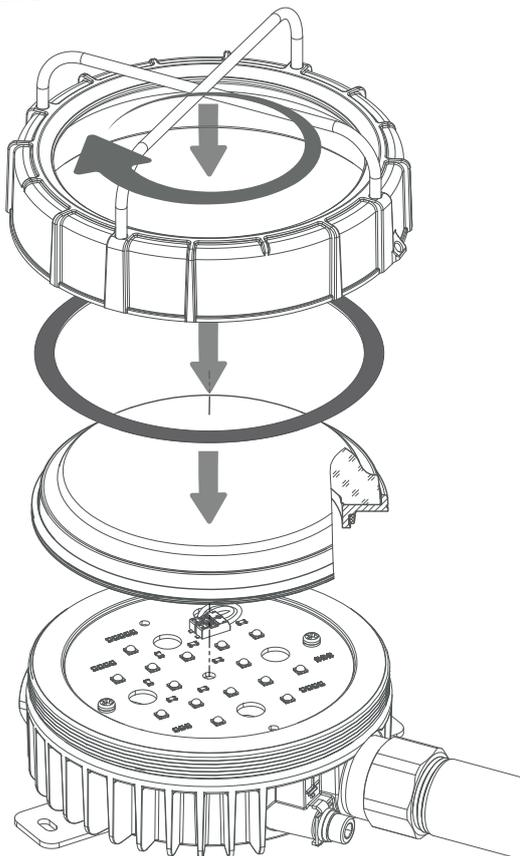
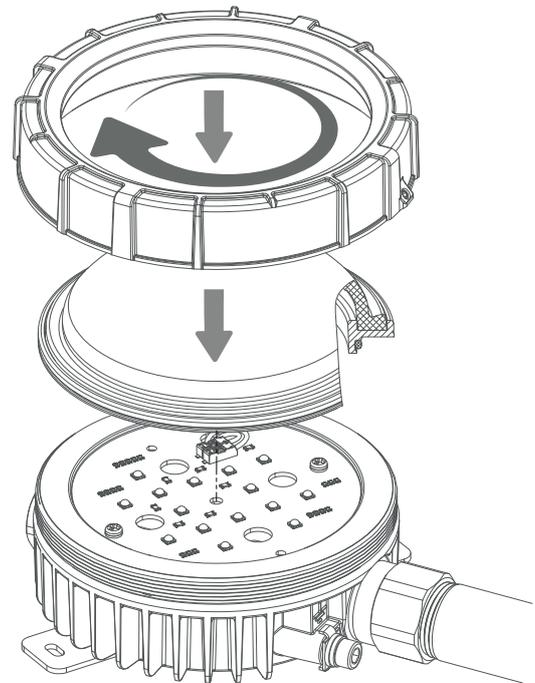

FIG. 12
FIG. 13
- Assemble the fixture in reverse order: attach the LED board to the housing, install the lens-holding ring with the embedded diffuser, the gasket (for Plafond EX), and screw on the top housing. See Fig. 12 and Fig. 13.